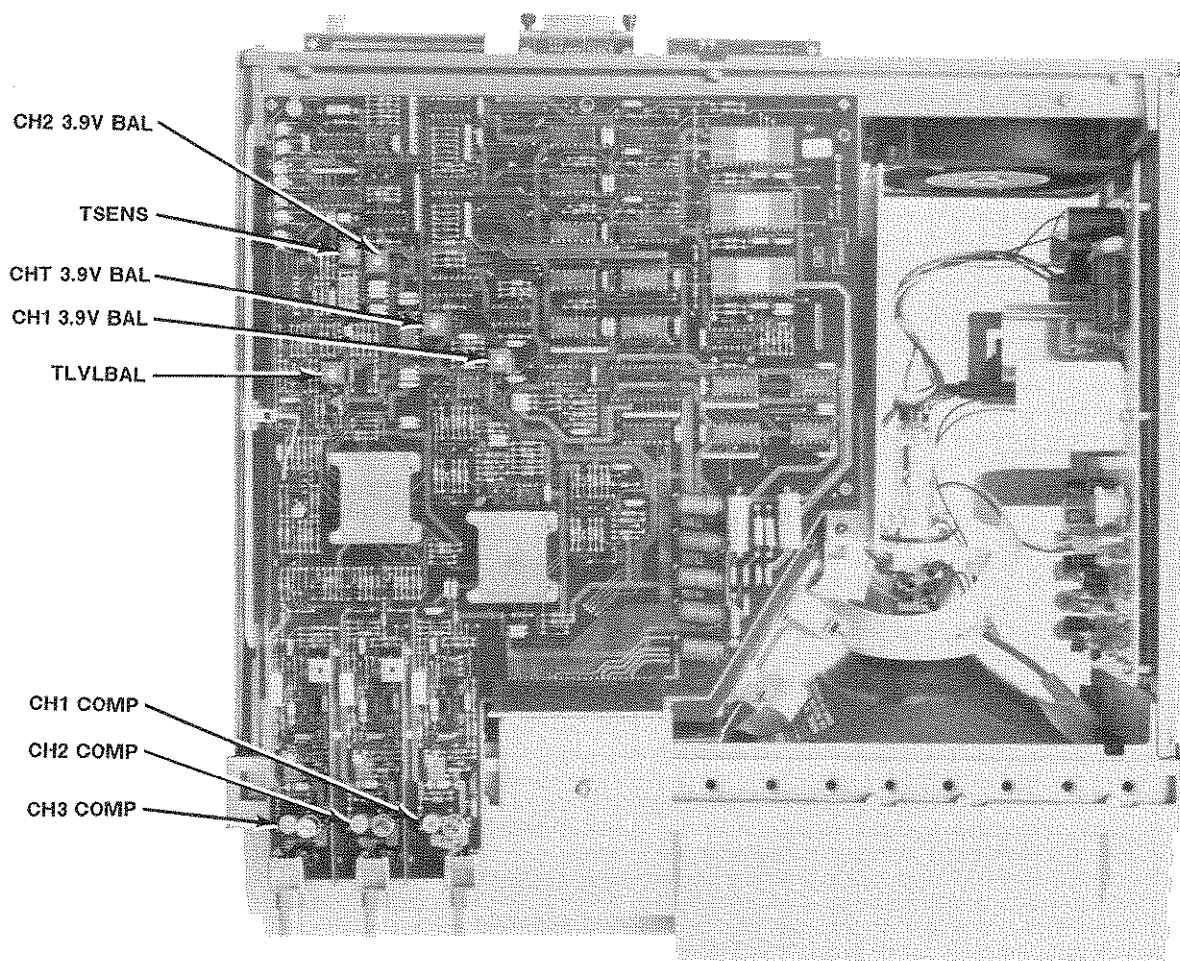
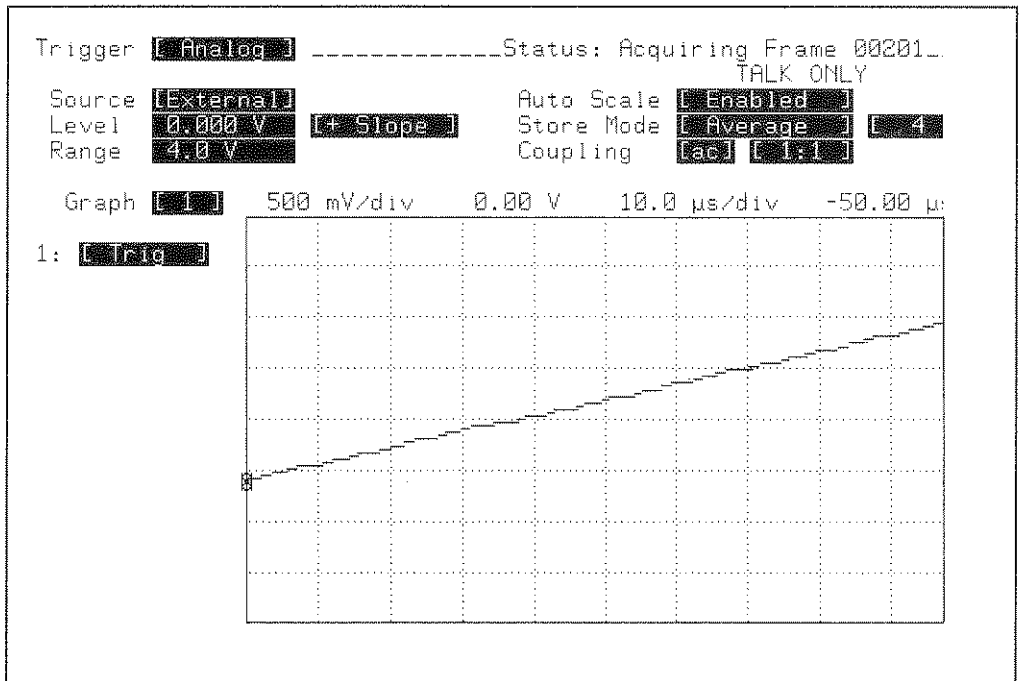

Figure 10-7. Analog Board Adjustment Locations.
Figure 10-10. Trigger Sensitivity Waveform
5. Display Chan 1 and note position trace on screen. Now set CHAN Range to 16 V and note trace position. Adjust CH1-3.9V BAL (figure 10-7) while switching between the 16-V range and the 40-V range. The voltage shift on the 40-V range should be equal and opposite to the voltage shift on the 16-V range when adjusted correctly. Do not offset more than  $\pm 4$  V.
8. Select SYSTEM Calibration menu. Execute ALL GAIN AND OFFSET (0). Wait until the gain and offset auto calibration has finished.
6. Connect the function generator output to 54200A/D INPUT 1 BNC and adjust the CH1 COMP adjustment for maximum square wave flatness using an insulated adjustment tool (figure 10-7).
4. The triggered waveform should appear similar to figure 10-10. If the waveform is not triggered, then turn TSEN (figure 10-7) completely clockwise. Now adjust TLVLBAL until a triggered waveform is displayed.
3. Display the TRIG channel. The triggered waveform should appear similar to figure 10-10.
4. While switching trigger slope between +Slope and -Slope, adjust TLVLBAL (figure 10-7) until the vertical trace shift is centered about the center horizontal graticule.